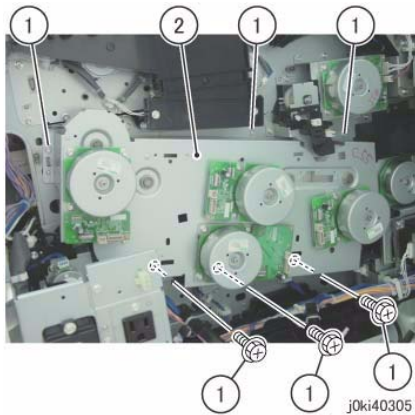

Figure 5 Remove the Drum/Dev Drive Assy
12. Remove the Drum/Dev Drive Assembly. (Figure 5)